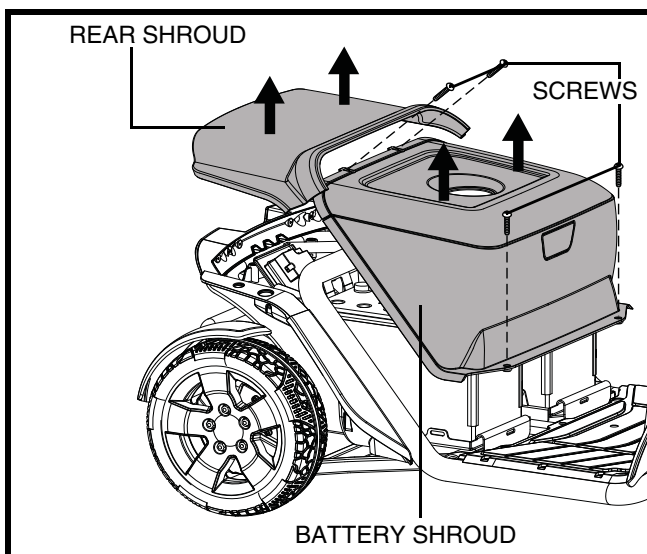

Figure 12. Shroud Removal/Installation
2. Remove the rear shroud by lifting it straight up and off the scooter. The shroud is secured to the scooter with reusable fasteners. See figure 12.
3. Remove the battery shroud by removing the four (4) screws that secure it to the scooter frame and then lifting the shroud straight up and off of the scooter. **See figure 12.**